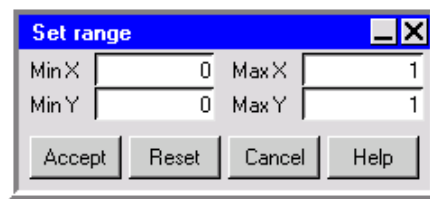

Figure 20.2.4: The Set range Panel
- To set the minimum and maximum values for the scales on the axes, click on **Set range**. This will open the **Set range** panel (Figure 20.2.4).